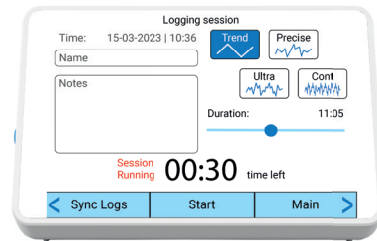

Figure 20
5. Tap 'Stop' in the Log session screen to halt the log session (see Figure 20).